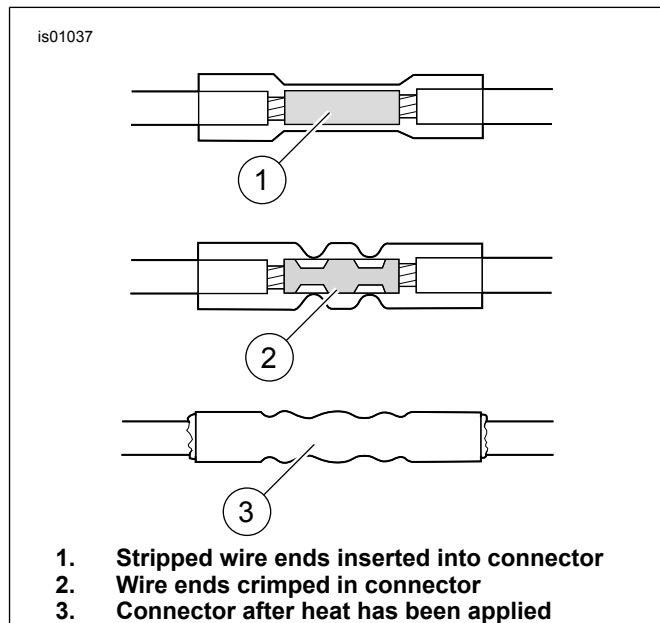

Figure 2. Sealed Splice Connections
2. See Figure 2. Insert the black turn signal wires into opposite ends of sealed splice connectors. Insert the violet/brown wires into opposite ends of the other sealed splice connectors.